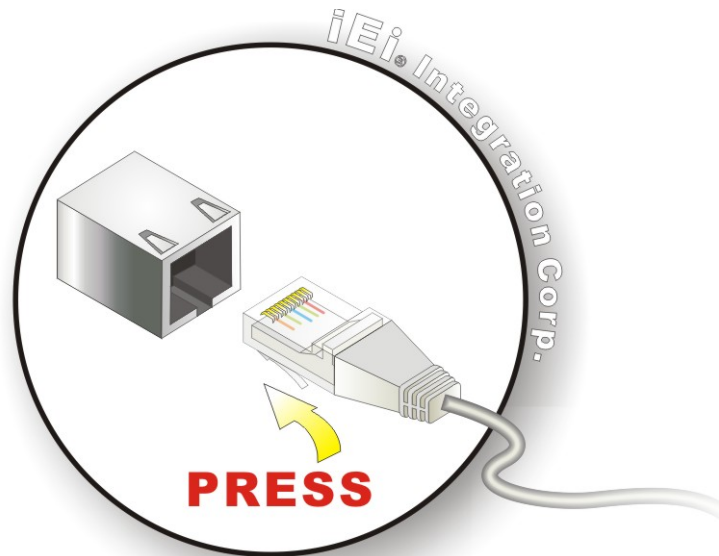

Figure 3-12: LAN Connection
**Step 2:** **Align the connectors.** Align the RJ-45 connector on the LAN cable with one of the RJ-45 connectors on the TANK-870-Q170 Series. See **Figure 3-12**.